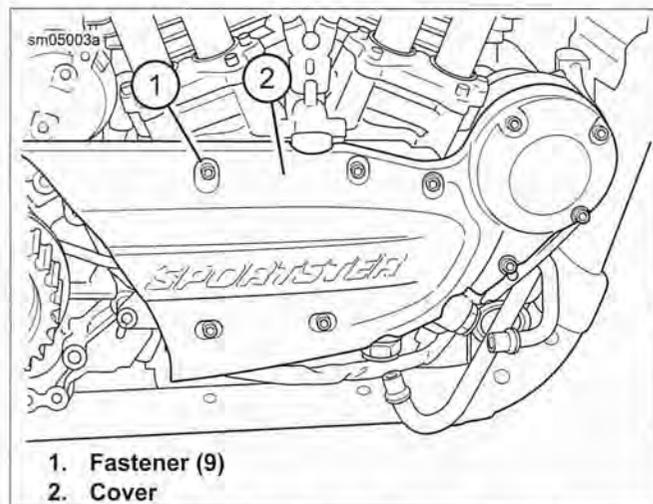

Figure 3-104. Oil Pump Cover: XR 1200X
5. See Figure 3-104. Remove cover screws (1) and remove cover (2). Discard old gasket.